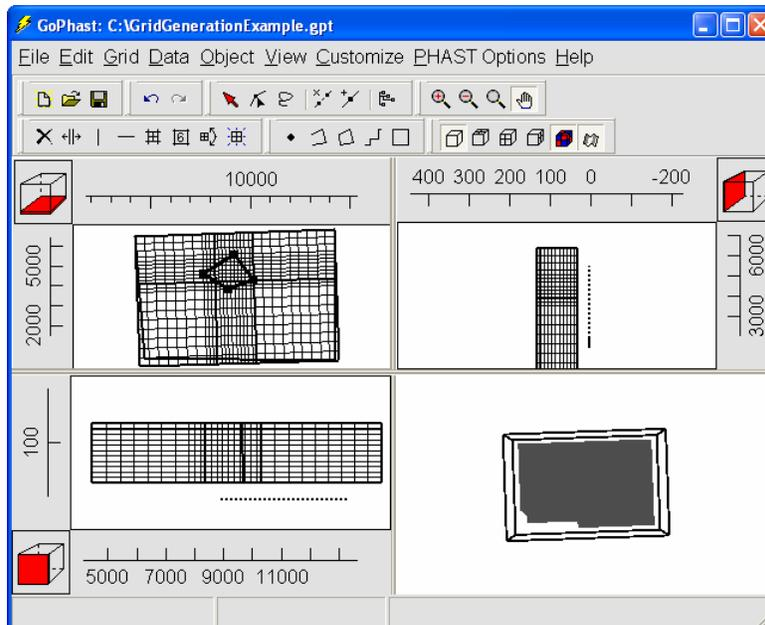

Figure 12. Grid with region with smaller elements specified by polygon object.
3. It may be desirable to have a finer grid in some regions than others. To do this, additional objects can be used to specify a zone where a fine grid will be used (fig. 12). In this example, the object specifies an element size of 200 m in the **Grid element size** edit box of the **Object Properties** dialog box.
4. After choosing **Grid|Generate Grid...** again, a new grid is created with a smaller element size in the area enclosed by the object (fig. 12).